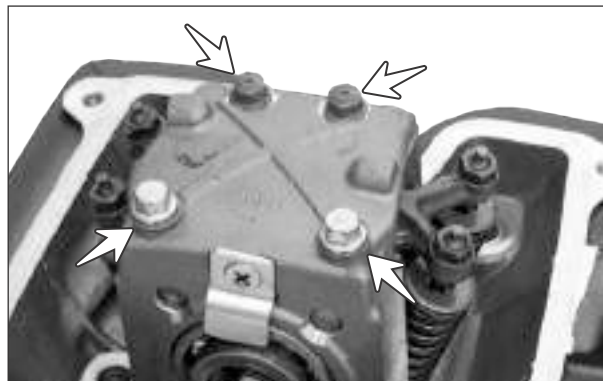

Fig. 3.46
- Remove hexagonal flange bolt (A) (M6x25 - 4 nos.) from the mounting of cylinder head assembly. (Fig.3.46)